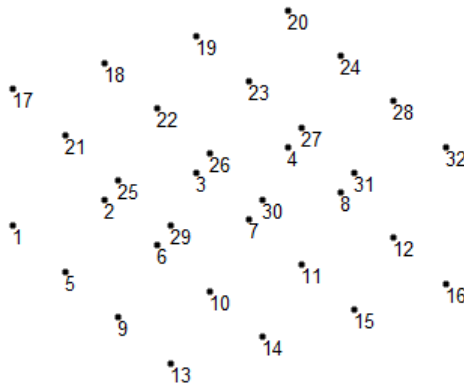

Figure 2-6 Nodes of the space frame structure
Step 4: Choose the **Save** button from the **File** menu in the **STAAD Editor** window and then close the window; the nodes are generated. Press SHIFT+N to view the node numbers, refer to Figure 2-6.